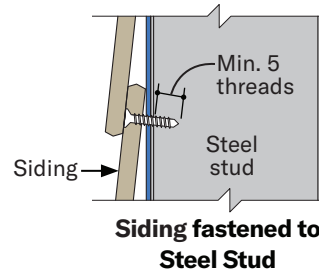

Figure 7f
- Min. of 5 threads beyond the combined thickness of the siding and steel stud framing. (Figures 7f, 7g)